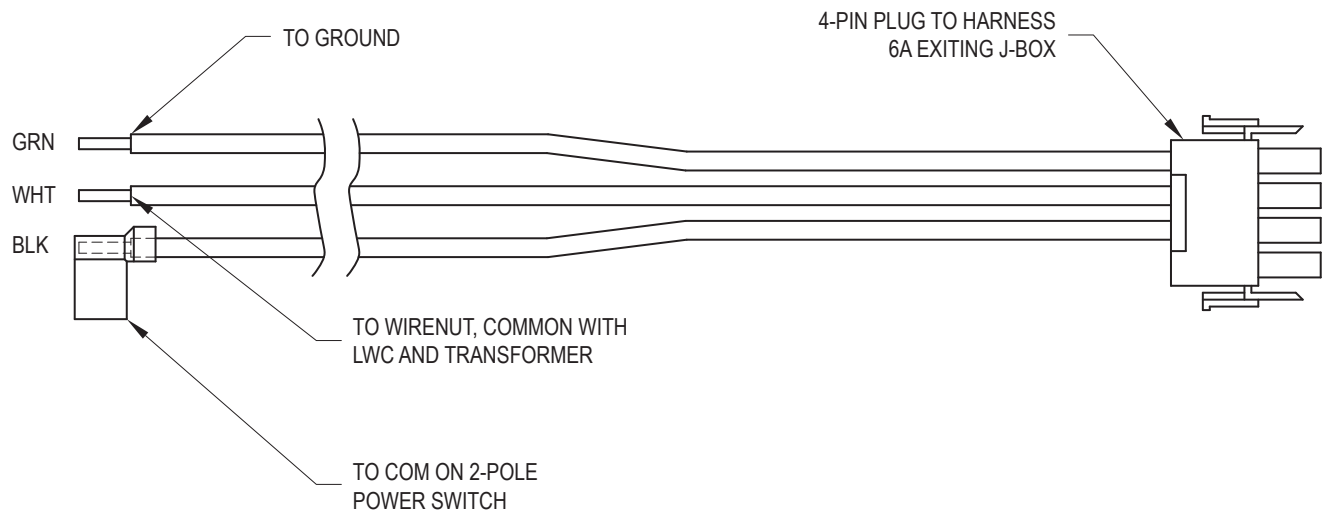

Figure 10. Harness 4, Models 0962-1826
- Connect the loose wires on HARNESS 4 per **Figure 10**. The 4-pin plug remains inside the J-box.